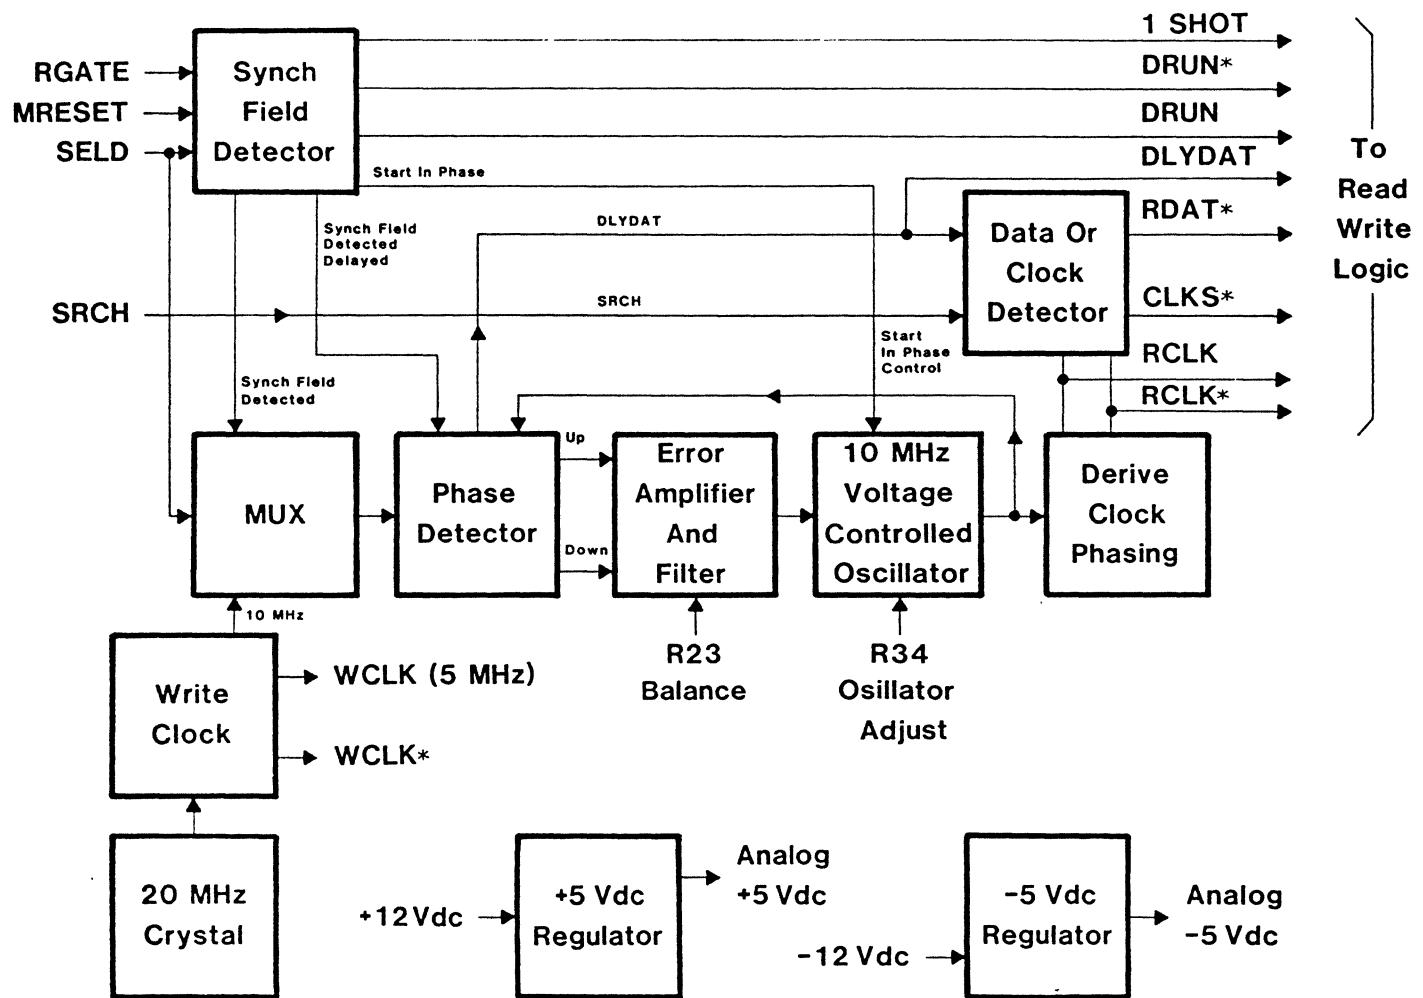

Figure 3-6 – Phase-Locked Data Recovery Block Diagram
3.54 Figure 3-6 illustrates the Phase-Locked Data Recovery in block diagram for the description which follows. Initially, the MFM encoded Selected Data Line, SELD, is input to the *Synch Field Detector* which looks for a series of zero's proceeding an Address or Data Mark. Since this same pattern can also appear in a normal data field, the μ P causes the detector to read the incoming data for a preset interval until it does or does not read an Address Mark.